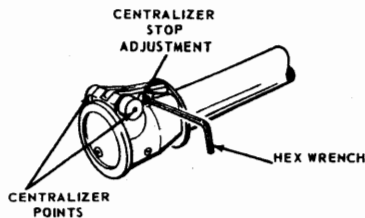

FIGURE 3
1. See Figure 3. Insert 5/64" Hex Wrench into Centralizer Stop Adjustment and turn Centralizer Points all the way back.